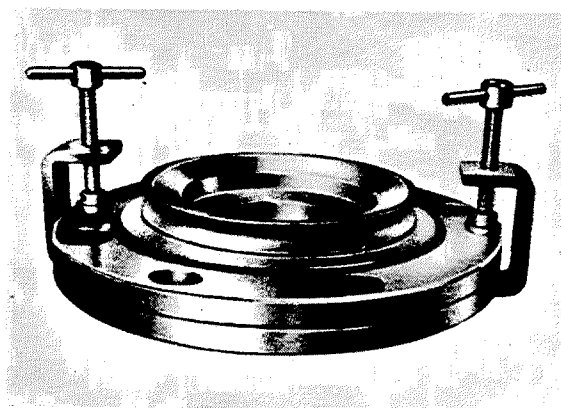

Fig. M 3/77
77. Mount assembled vibration damper with pulley, adding friction facings (see also Operation No. M 18). After the screws have been tightened, remove assembly yokes 187 589 04 31 again (Fig. M 3/77).